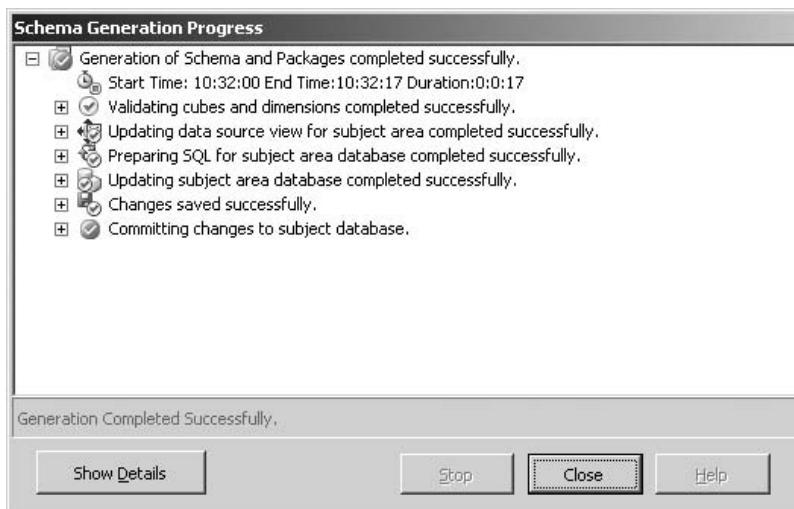

Figure 6-33 The Schema Generation Progress dialog box with a successful process completion
57. The Schema Generation Progress dialog box appears. This dialog box shows each step as the data mart (called the subject area database) is created. When the process has completed, the dialog box should appear similar to Figure 6-33. Click Close.